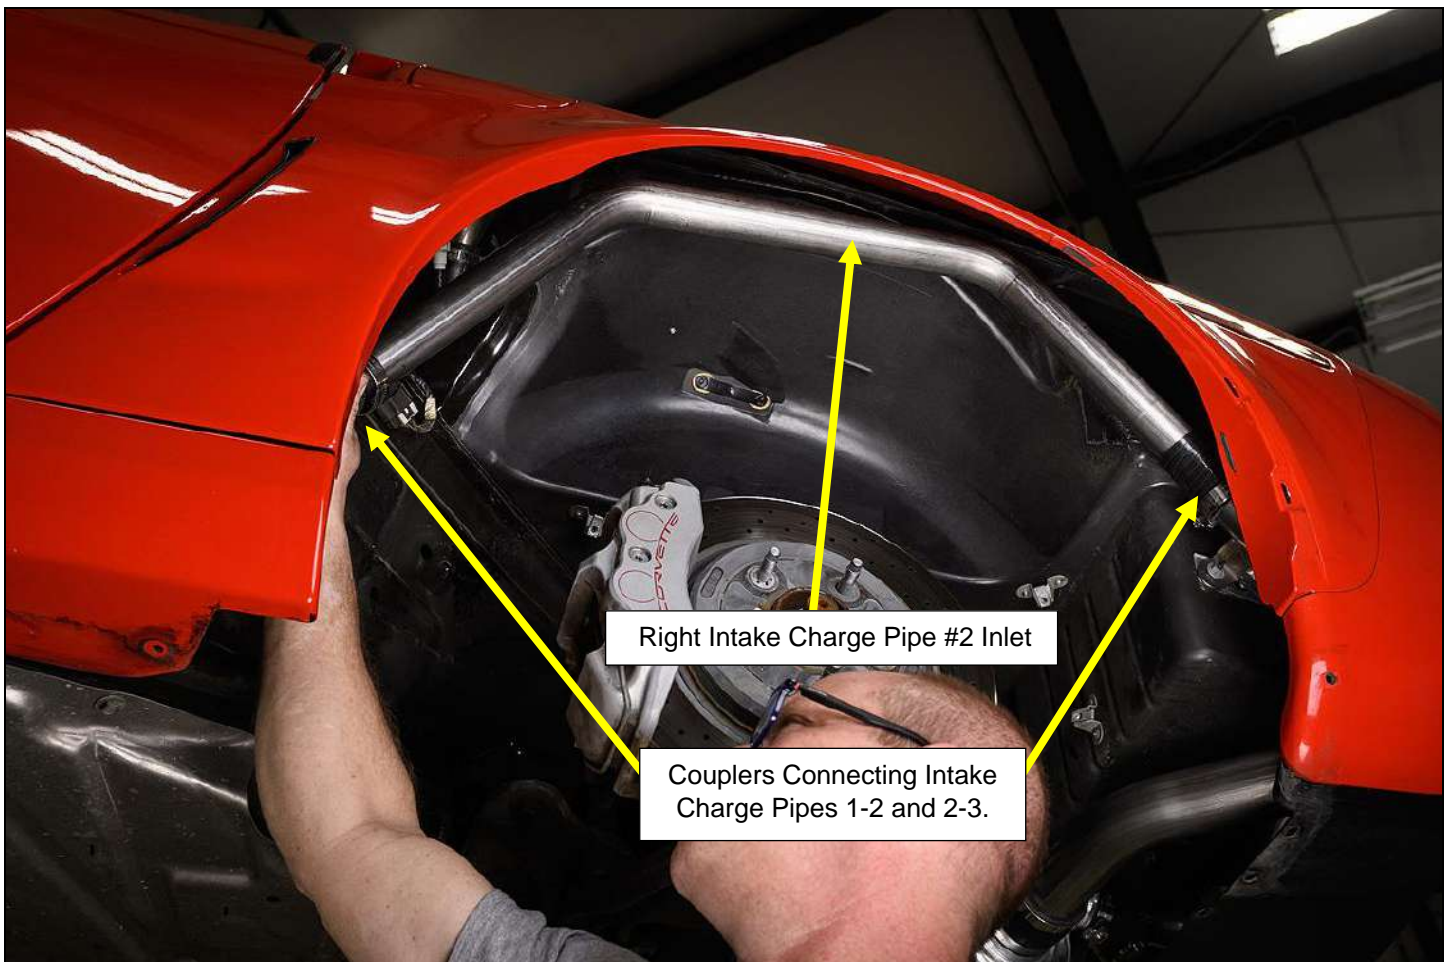

**Figure 63**
**NOTE:** It is necessary to separate the lower ball joint on the rear suspension to install intake charge pipes L3 and R3 (visual reference #9 and #19 page 6). See **Figure 63**.
8. Slide the left (driver's) and right (passenger's) intake charge pipes #3 (visual reference #9 and #19 page 6) between the suspension and into the rocker boxes. Check the orientation of the hose clamps on the outlet end of the pipe to be sure it clocked properly. Adjust if necessary (**Figure 63**).
10. Install a 1.750 x 3 silicone coupler on to the Inlet end of the left and right #3 intake charge pipes (**Figure 63**). Slide the coupler all the way on until even with the tube.